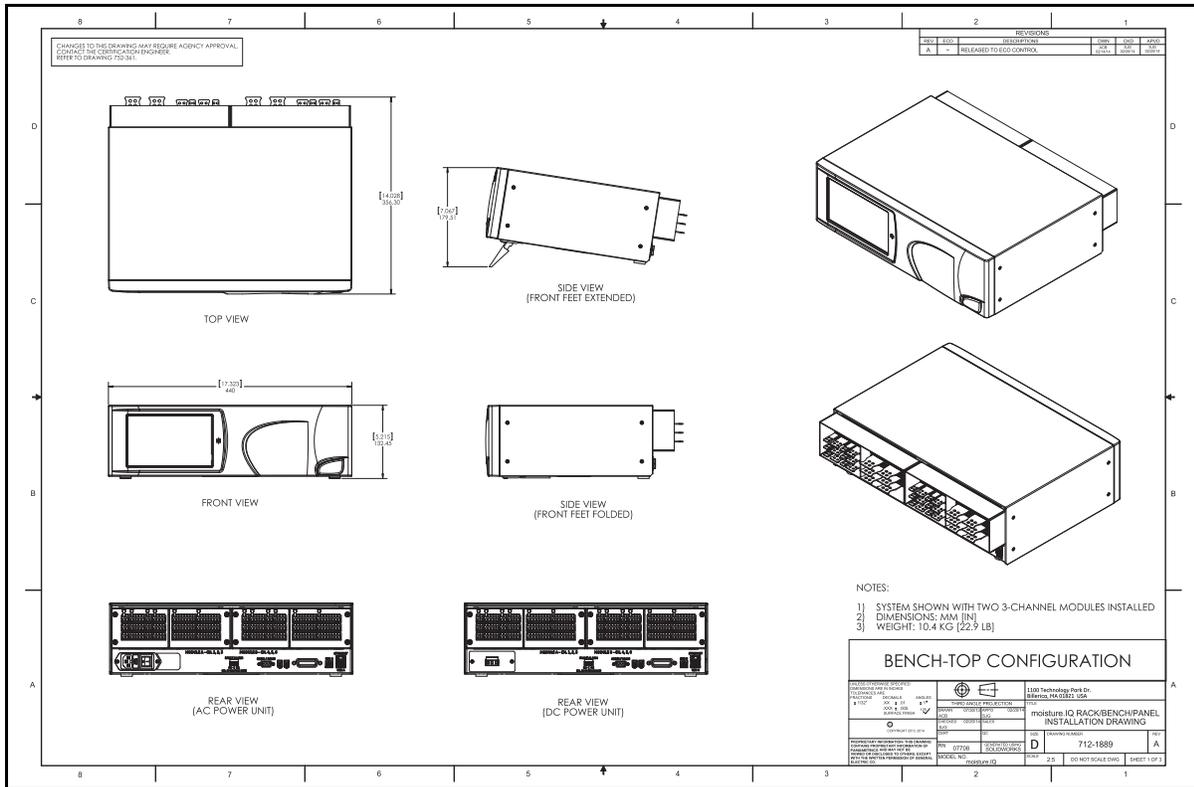
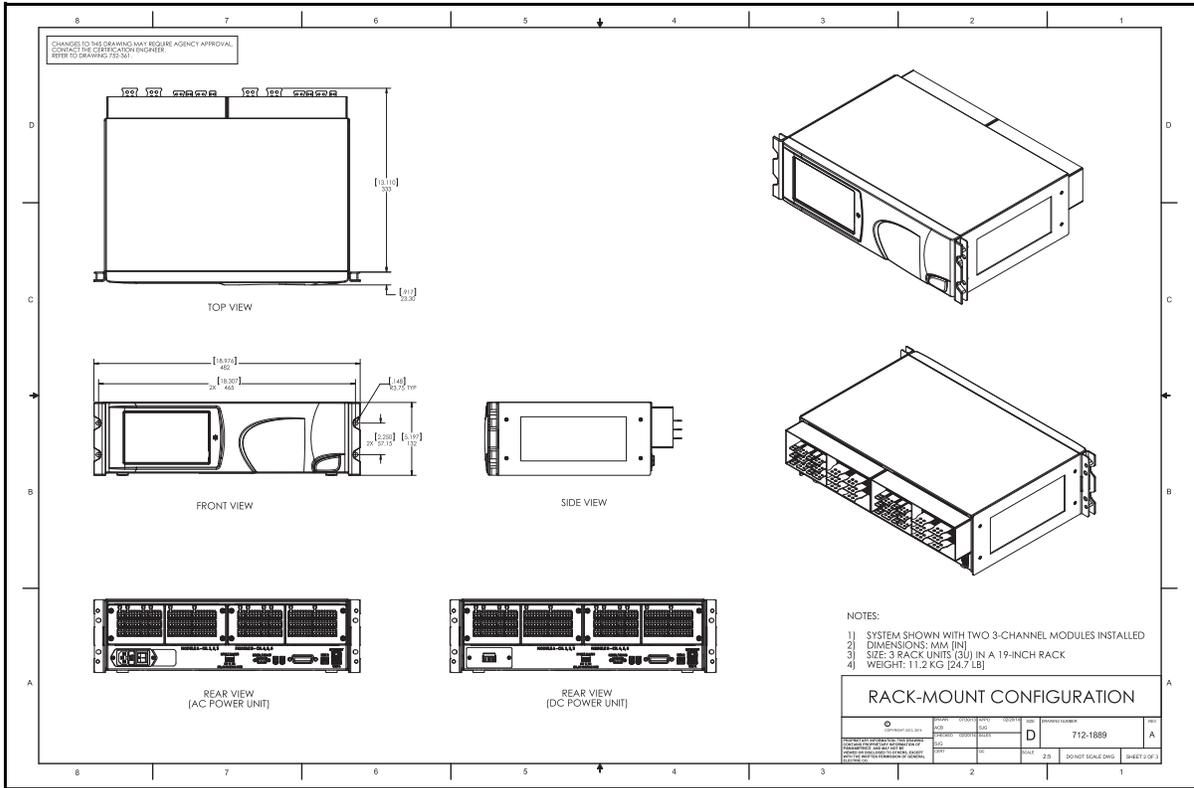
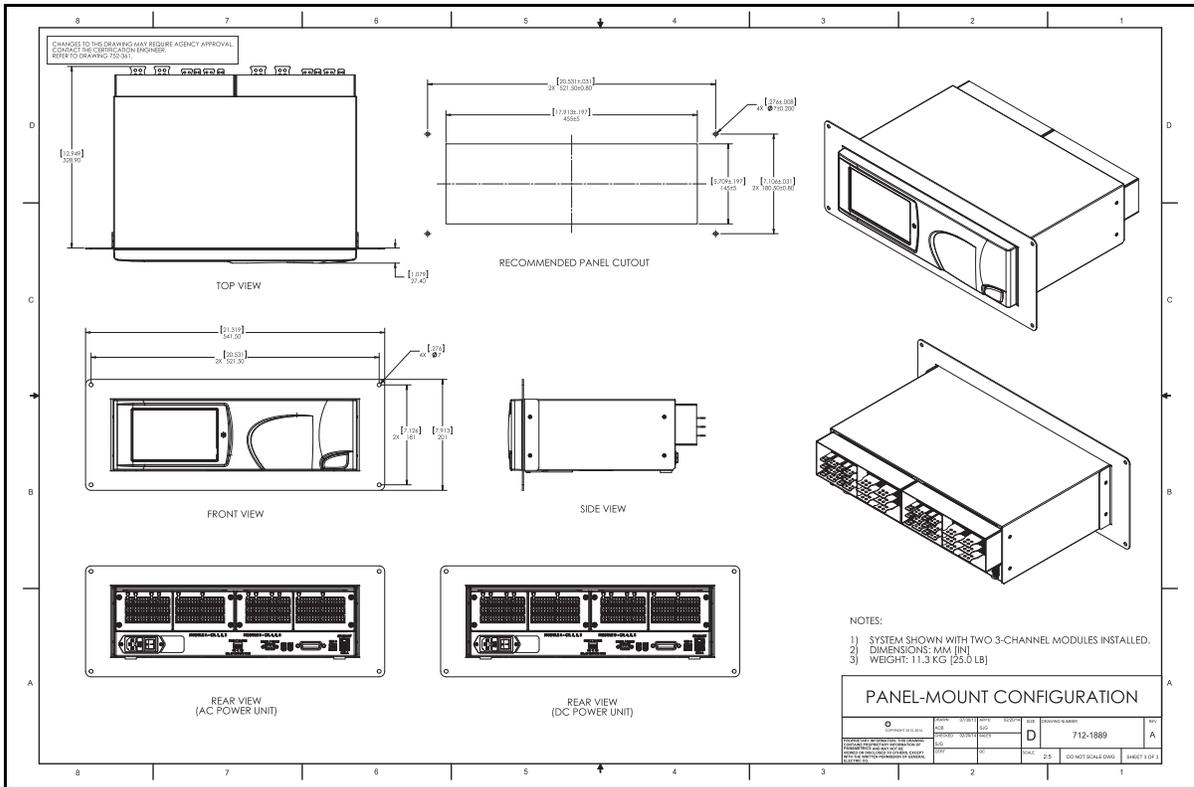

Figure 7: Bench-Top Configuration (Dwg. 712-1889_revA, SH 1 of 3)
Figure 8: Rack-Mount Configuration (Dwg. 712-1889_revA, SH 2 of 3)
Figure 9: Panel-Mount Configuration (Dwg. 712-1889_revA, SH 3 of 3)
- The installation should comply with **configuration drawings** 712-1889 rack (see *Figure 8(B)* on page 5)/bench (see *Figure 7(B)* on page 4)/panel (see *Figure 9(B)* on page 5) version.